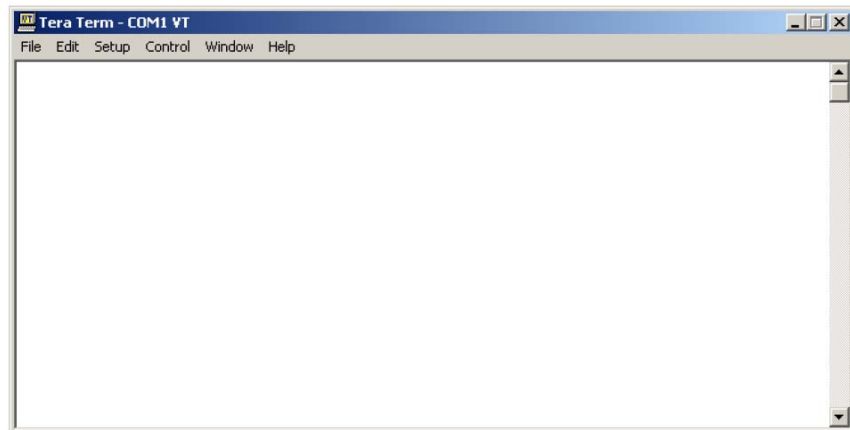

Figure 8: Serial Communication Program Window
10. Start a serial communication program like HyperTerminal or TeraTerm (Figure 8) on the host PC with the following settings